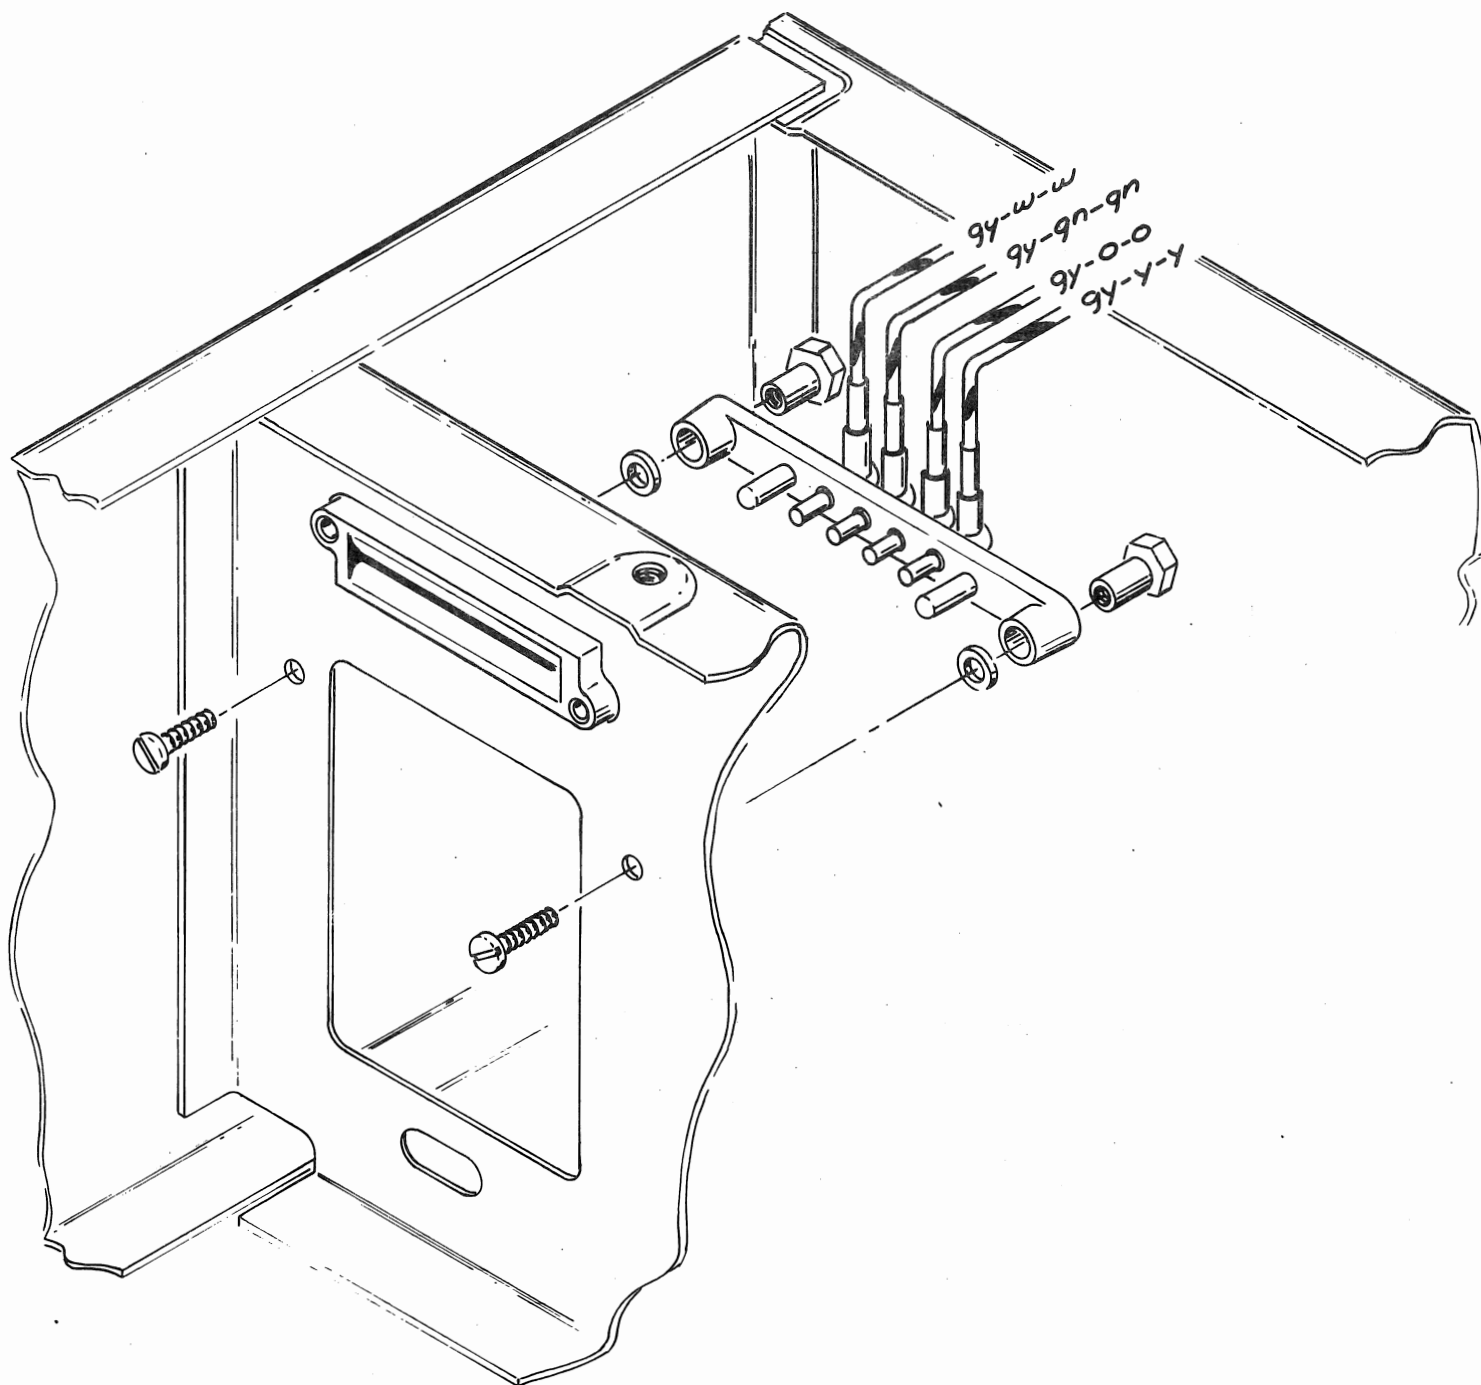

Fig. 4
- ( ) 8. Mount the connector assembly (from kit) as indicated in Fig. 4 (make sure cables are in positions shown). Use the 6-32 x 1/2 PHS screws, spacer nuts, and flat spacers from the kit.